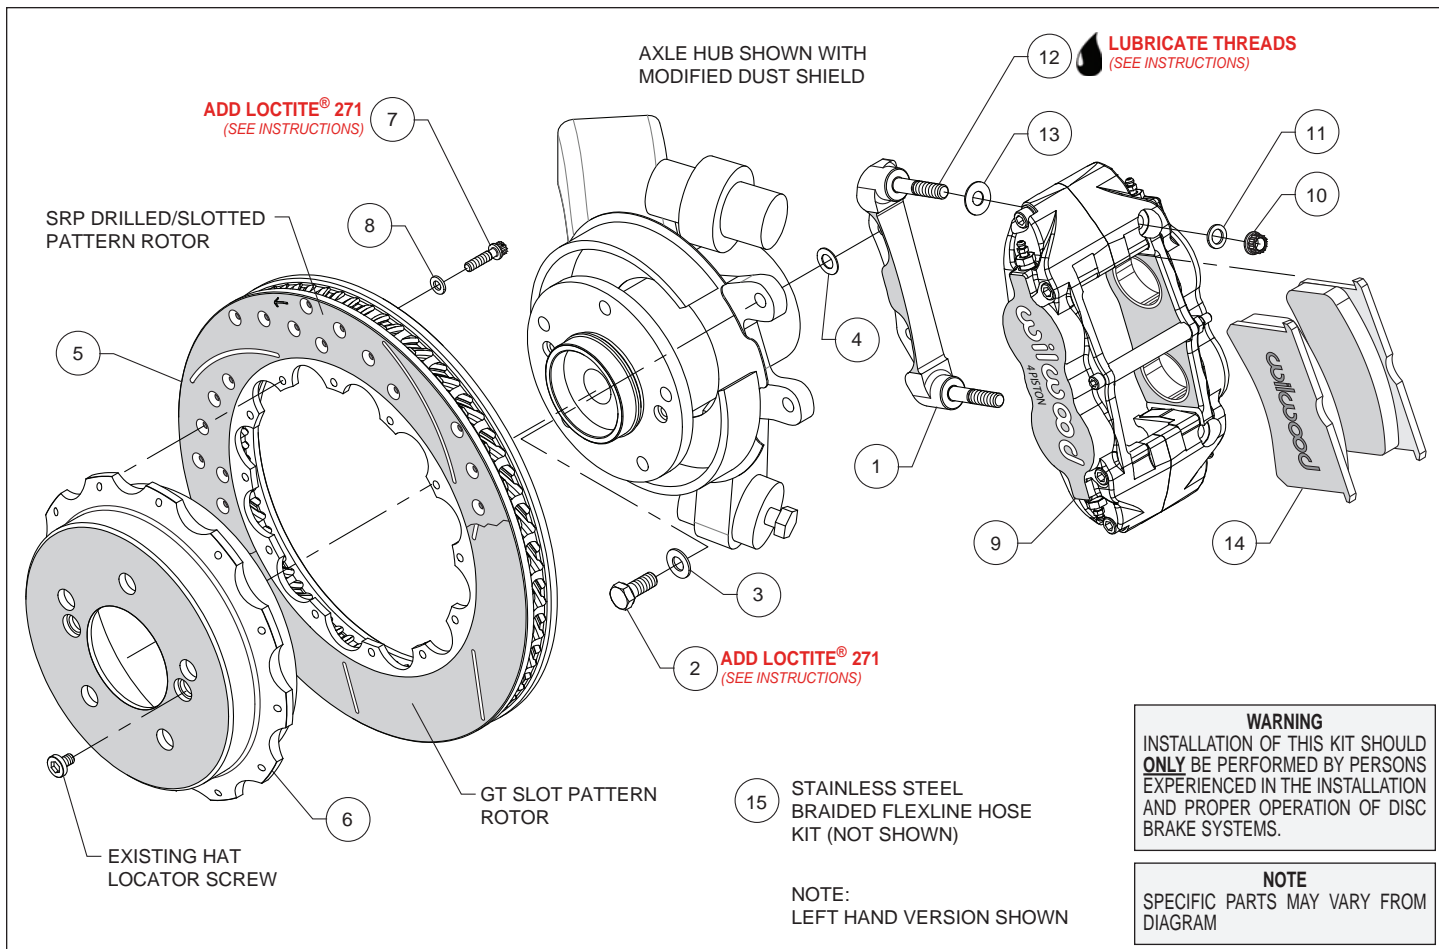
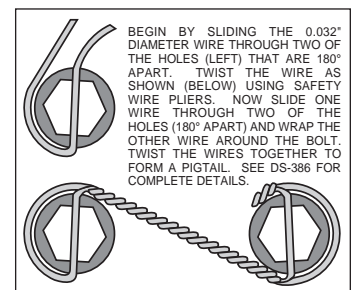

Figure 1. Typical Installation Configuration
Figure 3. Safety Wire Diagram
**Assembly Instructions** (numbers in parenthesis refer to the parts list and Figure 1 on the preceding pages):
- The caliper mount bracket (1) should initially be installed with clean, dry threads on the mounting bolts. Orient the bracket as shown in Figure 1 and Photo 3, and install using bolts (2) and washers (3). Initially place one .030 thick shim (4) on each bolt between the bracket and upright, Figure 1. Temporarily tighten the mounting bolts. **NOTE:** The bracket must fit squarely against the mounting points on the upright. Inspect for interference from casting irregularities, machining ridges, burrs, etc. Later, after the caliper alignment has been checked, the mount bolts will be secured using red *Loctite*® 271.
- Orient the rotor (5) and the hat (6) as shown in Figure 1 and Photo 4. Attach rotor to hat using bolts (7) and washers (8). Using an alternating sequence, apply red *Loctite*® 271 to the threads, and torque to 155 **in-lbs**. For an added measure of security, the bolts may be safety wired using standard 0.032 inch diameter stainless steel safety wire as shown in Figure 3. Please refer to Wilwood's data sheet DS-386 (available at [www.wilwood.com/Pdf/DataSheets/ds386.pdf](http://www.wilwood.com/Pdf/DataSheets/ds386.pdf)) for complete safety wire installation instructions.
- Lubricate the caliper mounting studs (12) with lightweight oil. Initially place one .035" thick shim (13) on each stud as shown in Figure 1 and Photo 6. Mount the caliper (9) onto the bracket (1) using lock nuts (10) and washers (11), Figure 1. Temporarily tighten the lock nuts and view the rotor through the top opening of the caliper. The rotor should be centered in the caliper, Photo 7. If not, adjust by adding or subtracting shims (4) between the bracket and the mounting bosses. Always use the same amount of shims on each of the two mounting bolts. Once the caliper alignment is correct, remove the bracket mounting bolts (2) one at a time, apply red *Loctite*® 271 to the threads, and torque to 35 ft-lb.
- Remove the caliper center bridge pad retainer bolt, nut, and tube from the caliper. Insert the brake pads (14) into the caliper, with the friction material facing the rotor, as shown in Photo 8. Check